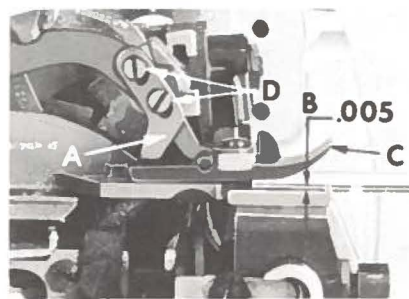

Fig. 17
This machine is equipped with a presser foot hold down plate (A, Fig. 17). The purpose of this plate is to hold down the rear of the presser foot and when set correctly it will help produce a more flat pucker free seam. An approximate setting is shown in Fig. 17. Set the machine with the feed dogs below the throat plate and insert a .005 inch shim (B) under the front portion of presser foot (C). Loosen screws (D) which hold the hold down plate in position and move the plate down until it rests firmly against the presser foot. Tighten the two screws and remove the shim.